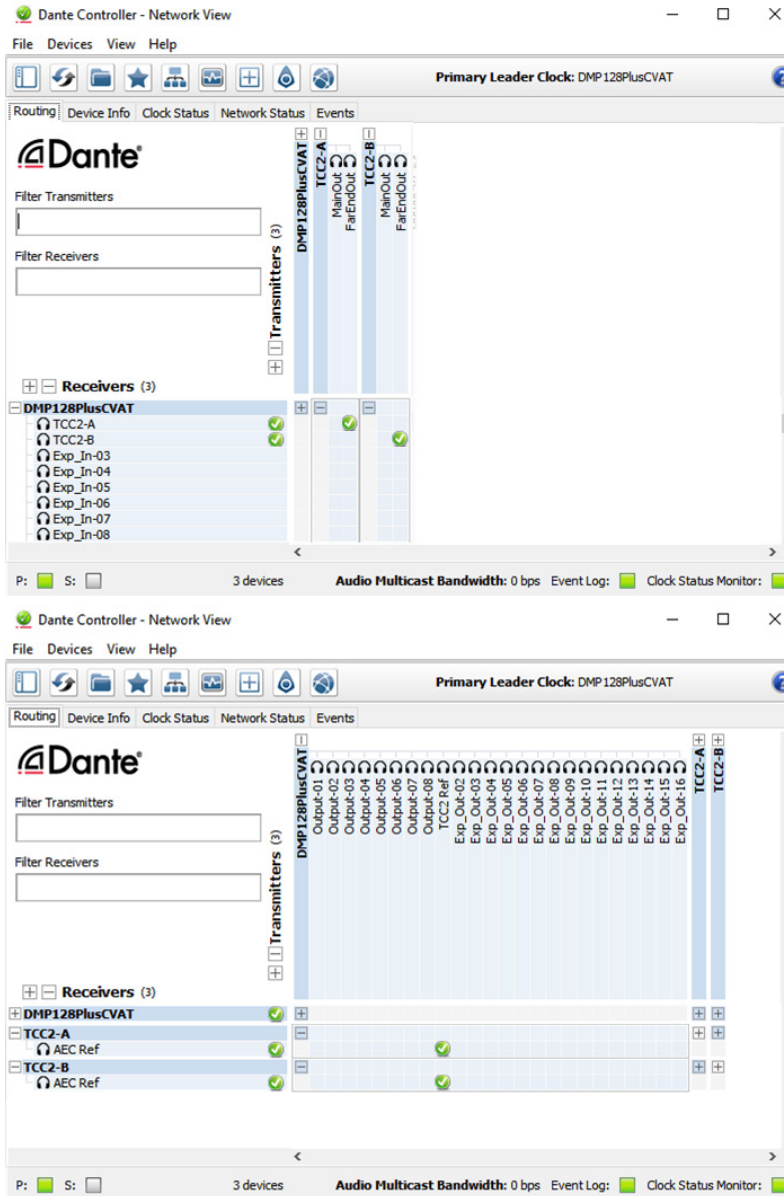

Figure 13. Network View Screen
10. To show the transmitters of a Dante device, click the **+** box next to the desired device in the **Dante Transmitters** panel, such as **TCC2-A** (see figure 13). The **+** changes to a **-** sign when the device expands.